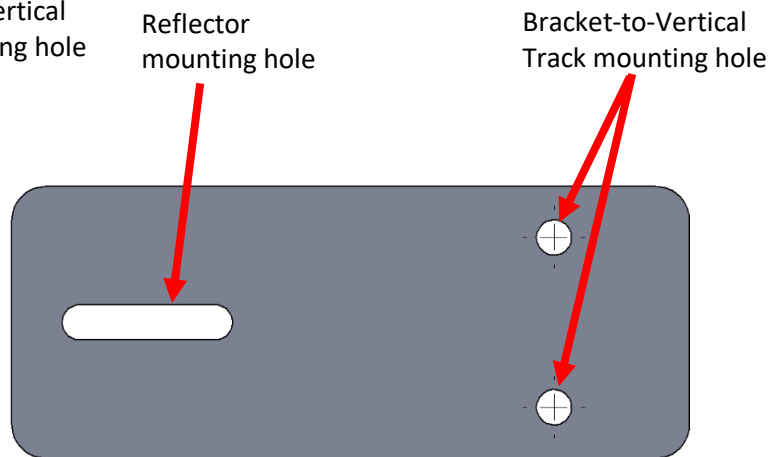

Figure 8: Retroreflective Photo Eye - Reflector Mounting Bracket
- Attach the photo-eye reflector to the J-bracket using the supplied hardware. Your installation should resemble the following photo (Figure 8).
- See Figure 8